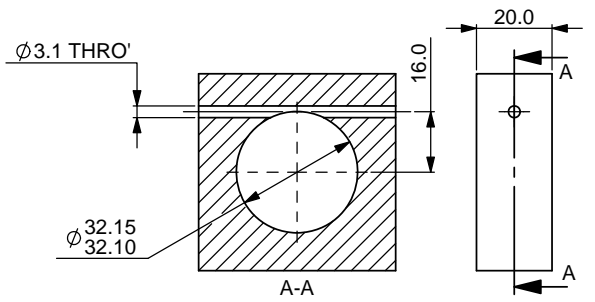

FIGURE 2: RECOMMENDED HOUSING DIMENSIONS
1. MAKE A HOLE IN THE PEDAL OF THE RECOMMENDED DIMENSIONS (FIG.2). THE CENTER HAS TO BE AT THE SAME HEIGHT AS THE MASTER-CYLINDER CENTERLINE WHEN PEDAL IS SQUARE TO THE MASTER-CYLINDER.
2. IF YOU WISH TO RETAIN THE SLEEVE WITH A BISSEL PIN, DRILL A HOLE IN THE PEDAL AS SHOWN ON FIGURE 2.